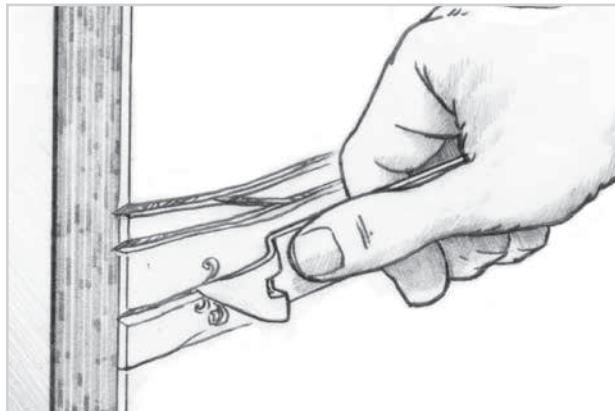

Figure 2-2 Open shallow and minor cracks with a “V”-shaped scraper, such as a sharpened can opener.
3. Open the cracks for repair. Use a sharpened "V" shaped tool to scrape down to the bottom of the cracks (Figure 2-2). A puncture-type can opener with the tip sharpened to about 90° works well. Beveling the sides of the crack provides more bonding area for the repair. It may be more effective to grind out an entire area of many, closely spaced or